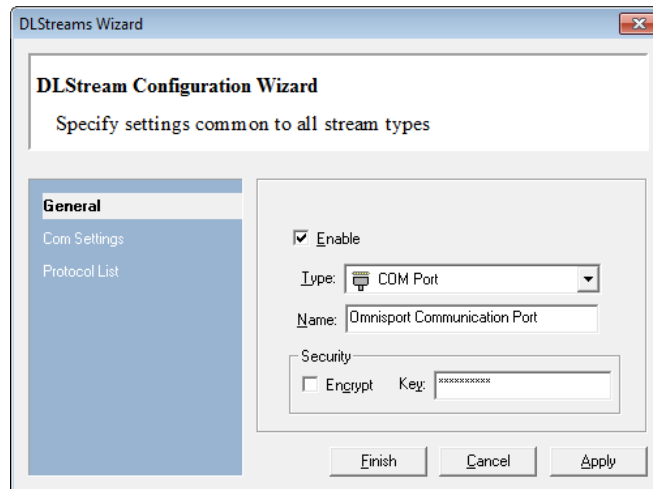

Figure 5: General Setup
6. In the window that appears (*Figure 5*), select **COM Port** as the *Type*.